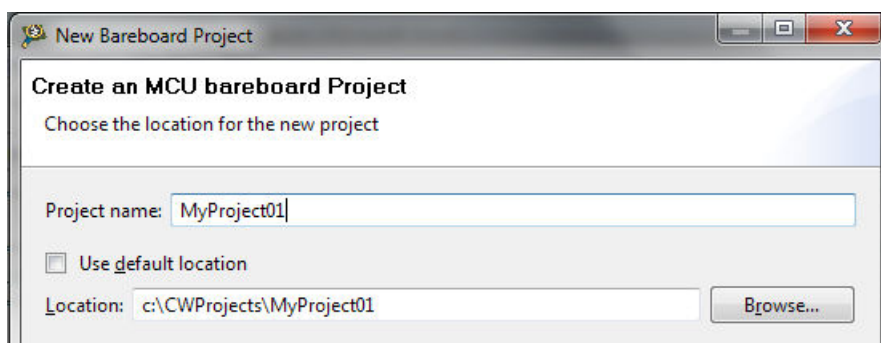

Figure 1-1. Project name and location
4. If you don't use the default location, untick the "Use default location" checkbox, and type the path where you want to create the project folder; for example, C:\CWProjects\MyProject01, and click Next. See Figure 1-1.